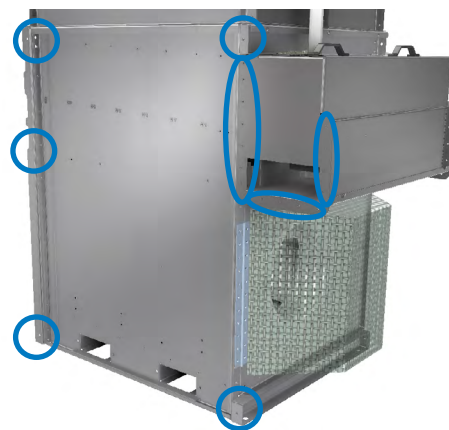

Figure 10c. Location of Bolts Required to Join Modules
3. Bolt the modules together at the locations shown in **Figure 10c**. Use 3/8" bolts at the circled locations and 5/16" bolts in the sump area.